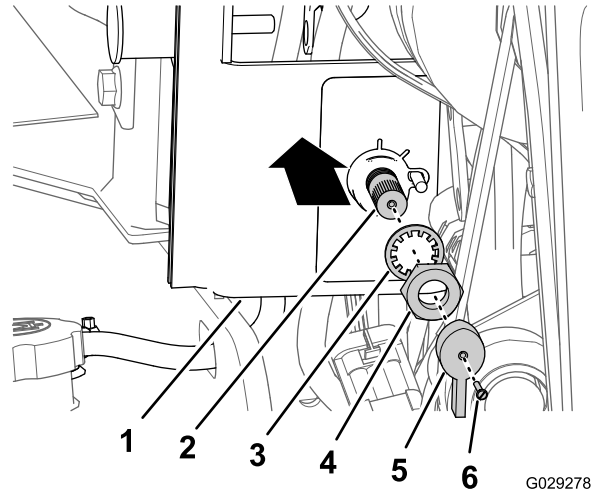

Figure 4
- At the battery-disconnect switch, remove the screw that secures the knob to the shaft of the switch (Figure 4).
- Remove the jam nut and lock washer that secure the disconnect switch to the right-cowl panel (Figure 4).
- Push the shaft of the battery-disconnect switch rearward to separate the switch from the cowl panel (Figure 4).